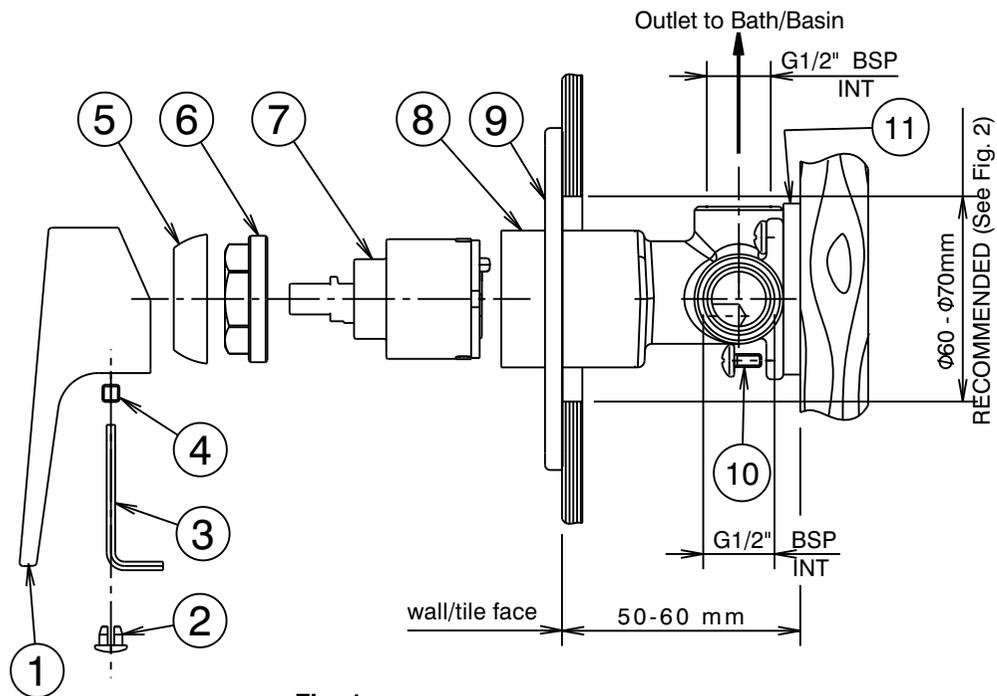
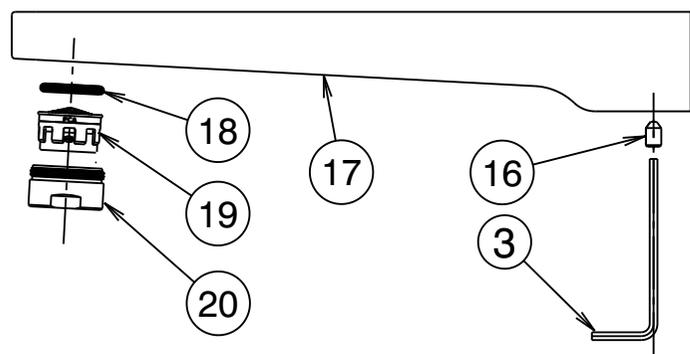

Fig. 1
Fig. 4
- Apply a suitable clear sealant to the back face of the cover plate (9), leaving an unsealed section at the bottom for drainage. Carefully fit the cover plate (9) onto the mixer body (8), push firmly on the cover plate (9) until it contacts the wall/tile face. Wipe clean any excess sealant from the chrome surfaces & the wall/tile face (See Fig. 1). Check that the thread on the lugged elbow (12) is the correct length, as shown (Fig. 4). Cut to length if required ensuring end face is square. Apply thread tape to the thread. **Important:** Care must be taken that thread tape cannot become dislodged and block the flow regulating device, causing a reduction in water flow. To ensure correct installation, length of exposed thread must not exceed 10mm.
- Fit handle (1) taking care that it is pushed fully onto cartridge stem, tighten screw (4) using the 2.5mm allen key (3) then fit plug (2).
- Screw the spigot (15) onto the thread of the lugged elbow (12) using a 10mm allen key (14+) until the cover plate (9) is held securely against the wall/tile face. DO NOT OVERTIGHTEN. Apply suitable lubricant to 'O'Rings on spigot (15).
- Fit wall outlet (17) onto the spigot (15), then carefully push it firmly against the cover plate while tightening grub screws (16) using the 2.5mm allen key (3) provided. Take care that the aerator housing (20) is pointing vertically downwards before tightening screws (16). (Fig.4)
#### Replacing Cartridge (Fig. 1)
#### Replacing Aerator Insert(Fig.4)